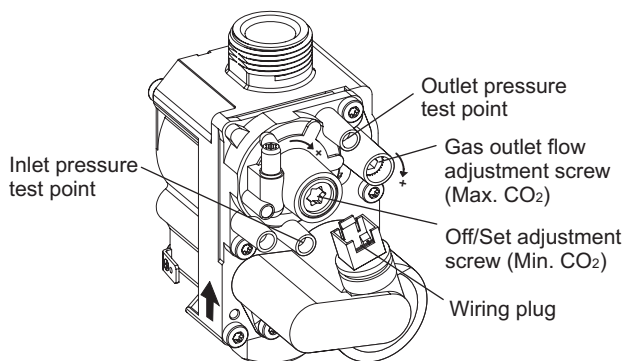
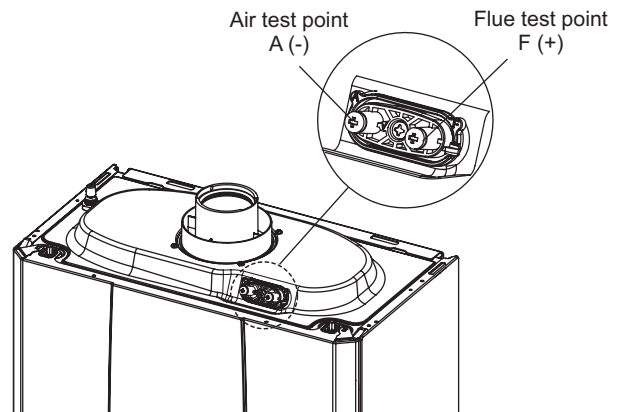

Fig. 6.2
Fig. 6.3
The air gas ratio of the boiler has been factory-set and should not require adjusting during commissioning. If adjustment is recommended or required the engineer must be competent to carry out this work. See Fig. 6.3 for analyser test point.
Refer to Section 6.6 and enter the chimney sweep mode (with no DHW demand) use the DHW down button to set the output to minimum (0%). Insert the analyser probe into the flue test point (Fig. 6.3) and check that the CO2 value is as specified in Section 3.1, otherwise adjust the screw (Fig. 6.2). To increase the CO2 value, turn the adjustment screw in a clockwise direction and vice versa to decrease.
When you finish the minimum CO2 adjustment, while maintaining the chimney sweep function active, use the DHW up button to set the output to maximum (99%). Insert the analyser probe into the flue test point (Fig. 6.3) and check that the CO2 value is as specified in Section 3.1, otherwise adjust the screw (Fig. 6.2). To increase the CO2 value, turn the adjustment screw (Fig. 6.2) in a clockwise direction and vice versa to decrease it.
Connect the flue gas analyser to the flue gas sampling point as shown in Fig. 6.3.
**Notes:** 1. Prior to servicing, it is recommended that a flue gas analyser is used to measure the performance of the boiler (refer to Fig. 6.3 for the position of the flue sampling point). Refer to Section 6.6 Checking combustion. If the CO/CO2 ratio measured is greater than 0.004 **or** when other checks or comments from the customer have indicated that there may be problems, check the following: